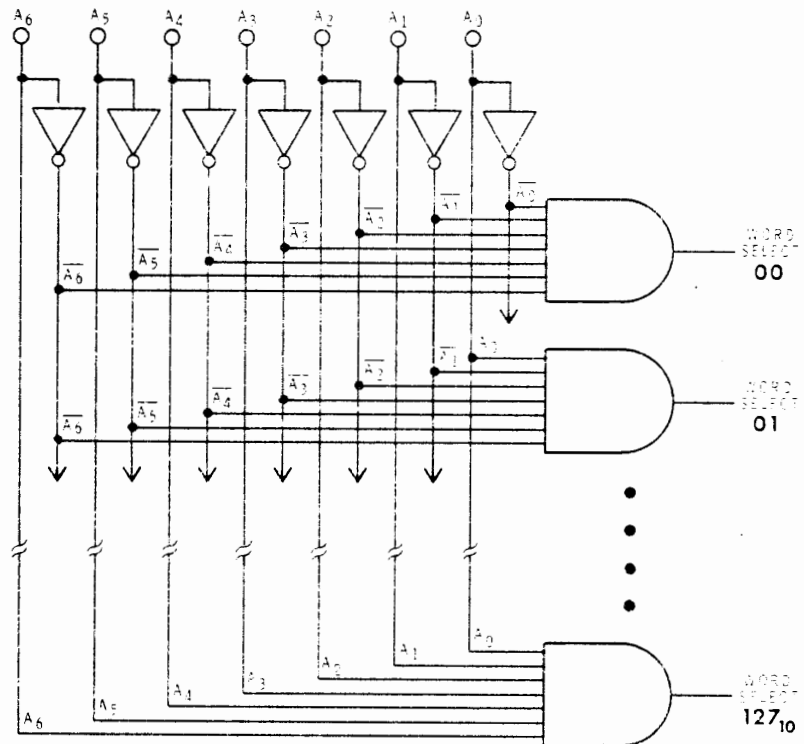

Figure 7-13
The address decoder is made up of 128 7-input AND gates. A simplified diagram is shown in Figure 7-13. Here, only three gates are shown — the first two and the last. Word select line 00 should go high when address lines A_0 through A_6 are all low. Notice that seven inverters are used to form $\overline{A_0}$ through $\overline{A_6}$. Notice also, that these complements are the inputs to the top AND gate. If A_0 through A_6 are all low, then $\overline{A_0}$ through $\overline{A_6}$ must be all high. Consequently, the output of the AND gate goes high. Thus, word select line 00 is selected when the low order address is 000000_2 .
21. Refer to Figure 7-13. Which address lines would connect to the input of the AND gate that drives word select line 02?